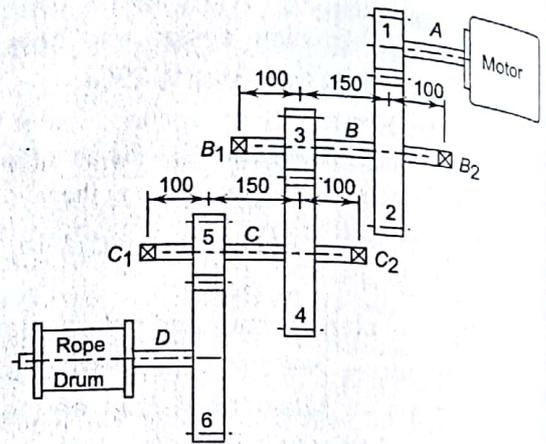

Fig. 17.48
17.5 **D** A train of gears transmitting power from a 10 kW, 1440 rpm motor to a rope drum is shown in Fig. 17.48. The number of teeth on the various gears is as follows, **[LO 4]**